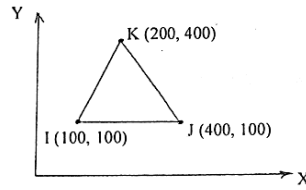

Fig 13 (a)
13. (a) For the constant strain triangular element shown in Fig. 13 (a) assemble strain-displacement matrix. Take $t = 20 \text{ mm}$ and $E = 2 \times 10^5 \text{ N/mm}^2$. (16)